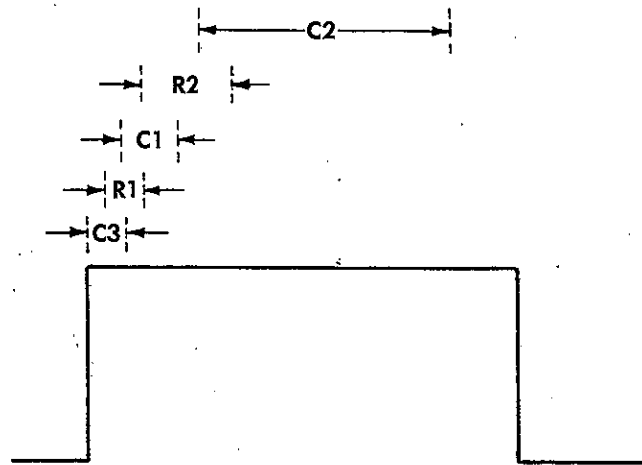

Fig. 2-1. Pulse area affected by each compensation adjustment.
The P6015 Compensating Box contains seven adjustable components. All except R5 (see schematic) vary the time constant of RC networks. The adjustable components and their affect on a 1 kHz square wave (see Fig. 2-1) are as follows:
Compensation can be checked by displaying the oscilloscope calibrator 40-volt output through the P6015 Probe. Adjust the oscilloscope controls (0.02 volts/div, sweep rate 0.5 ms/div) to display a waveform similar to Fig. 2-1. If the waveform has aberrations, compensation is necessary. If the aberrations cannot be corrected by making minor adjustments, proceed as follows:
3. Set the sweep rates for $50 \mu\text{s}/\text{div}$ and display the leading corner of the square wave. Adjust R1, C3, and C1 for the sharpest leading corner without overshoot (see Fig. 2-1). Each may have to be adjusted several times for the sharpest corner. Maintain 2 divisions of deflection at the leading edge. The R1-C3 combination affects the very corner and C1 affects the area immediately following with some overlap.